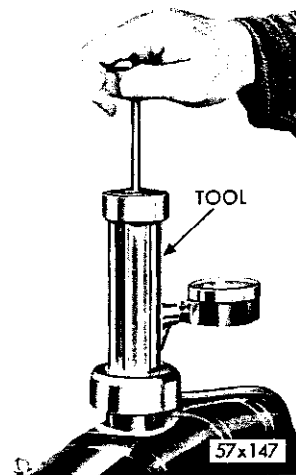

Fig. 9—Testing the Cooling System for Leaks
(1) Wipe the radiator filler neck sealing seat clean. The water level should be $\frac{1}{2}$ inch below the neck of the radiator.
(2) Attach the tester, Tool C-3499 to the radiator, as shown in Figure 9 and apply 15 pounds pressure. If the pressure drops inspect all points for external leaks.